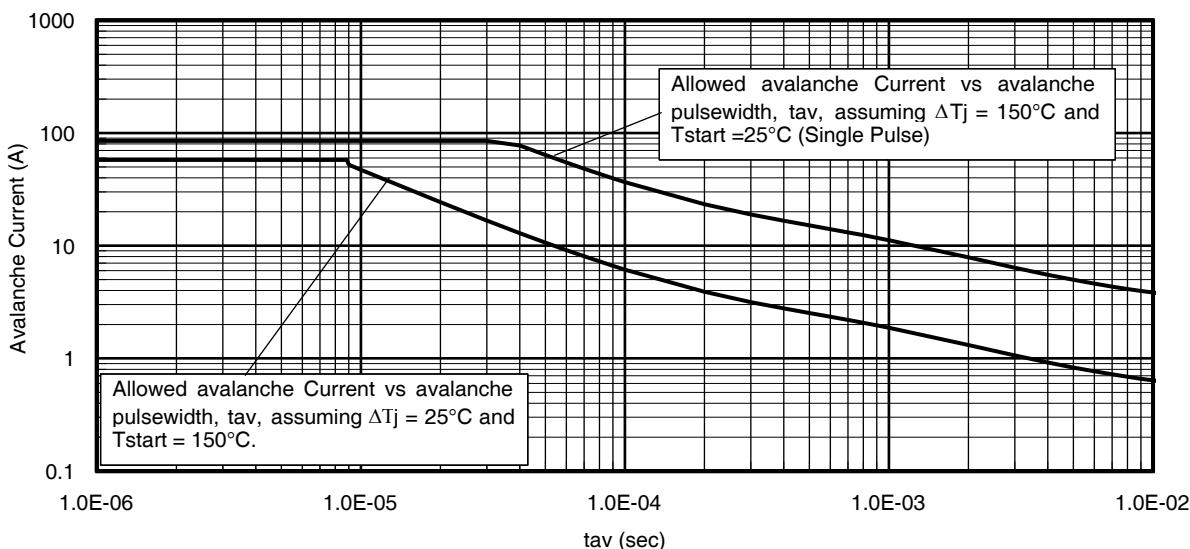

Fig 16. Single Avalanche Event: Pulse Current vs. Pulse Width
Notes on Repetitive Avalanche Curves , Figures 16, 17:
7. ΔT = Allowable rise in junction temperature, not to exceed T_{jmax} (assumed as 25°C in Figure 16, 17).